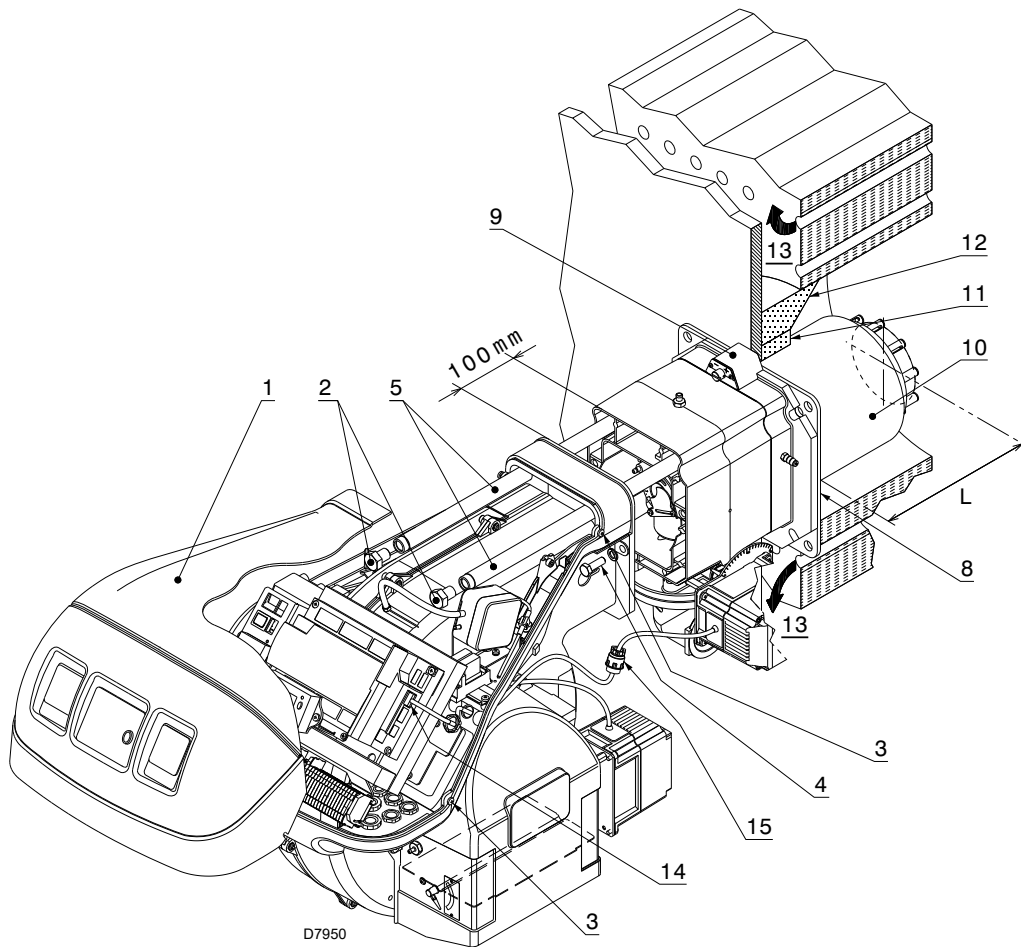
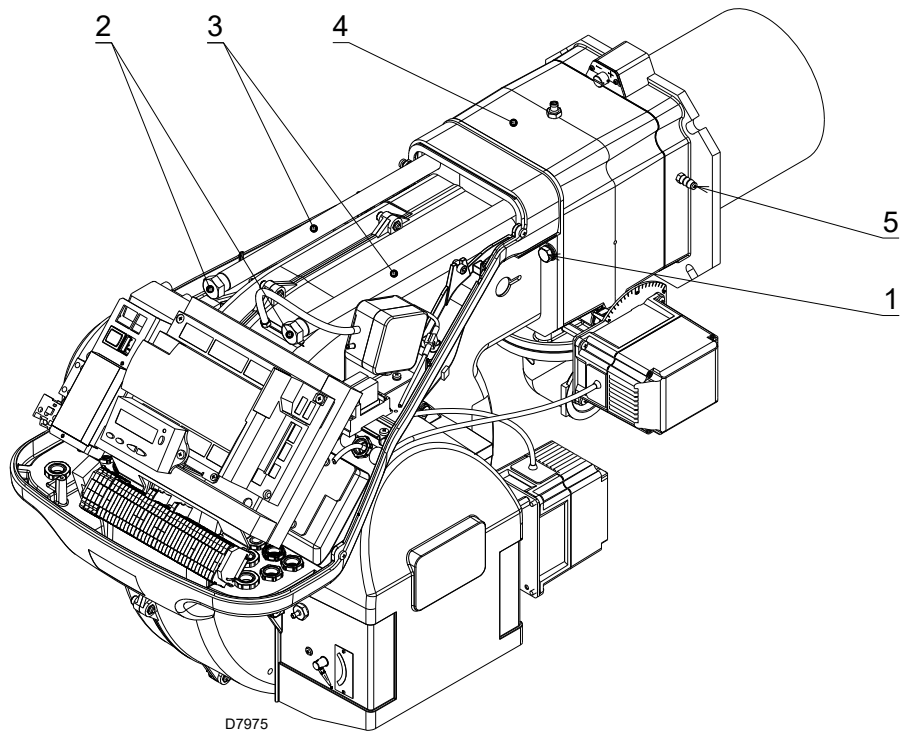

Fig. 15
Fig. 19
For boilers with front flue passes 13)(Fig. 15 at page 20), a protection in refractory material 11) must be inserted between the boiler refractory 12) and the blast tube 10).
Separate the combustion head from the rest of the burner, as in Fig. 15; proceed as follows:
At this point of the installation, the combustion head is fixed to the boiler as shown in Fig. 15 at page 20. It is therefore especially easy to adjust, and this adjustment depends only on the maximum output of the burner.
- reassemble the burner on the guides 3)(Fig. 19) at about 100 mm from the pipe coupling 4) - burner in the position shown in Fig. 15 at page 20;
- insert the probe and electrode cables, then slide the burner as far as the pipe coupling - burner in the position shown in Fig. 19;
- connect the plug of the servomotor 14)(Fig. 15 at page 20) and tighten the cable grommet 15);
- refit the screws 2)(Fig. 19) on the guides 3);